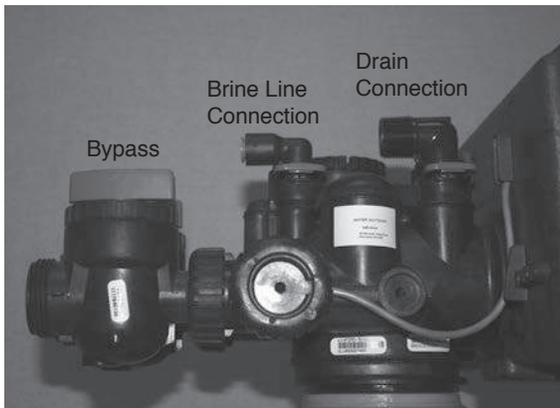

Figure 6a
5. Some contractors make drain line using 5/8" polytube (See figure 6a, page 6) or a 3/4" female adapter. If soldering, joints near the drain must be done prior to connecting the drain line flow control fitting. Leave at least 6" between the drain line control fitting and solder joints when soldering pipes that are connected on the drain line control fitting. Failure to do this could cause interior damage to the drain line flow control fitting.
7. Connect the brine line found in the brine tank to the brine connection on the control valve. The control valve has a standard refill elbow to which a 3/8" flexible tube can be connected, see figure 6a. (An optional elbow can be ordered which accommodates a 1/2" flexible tube for a high regenerant draw rate situation). Both elbows use the same refill flow control and retainer. Make sure the floor is clean beneath the salt tank and that it is level and smooth.